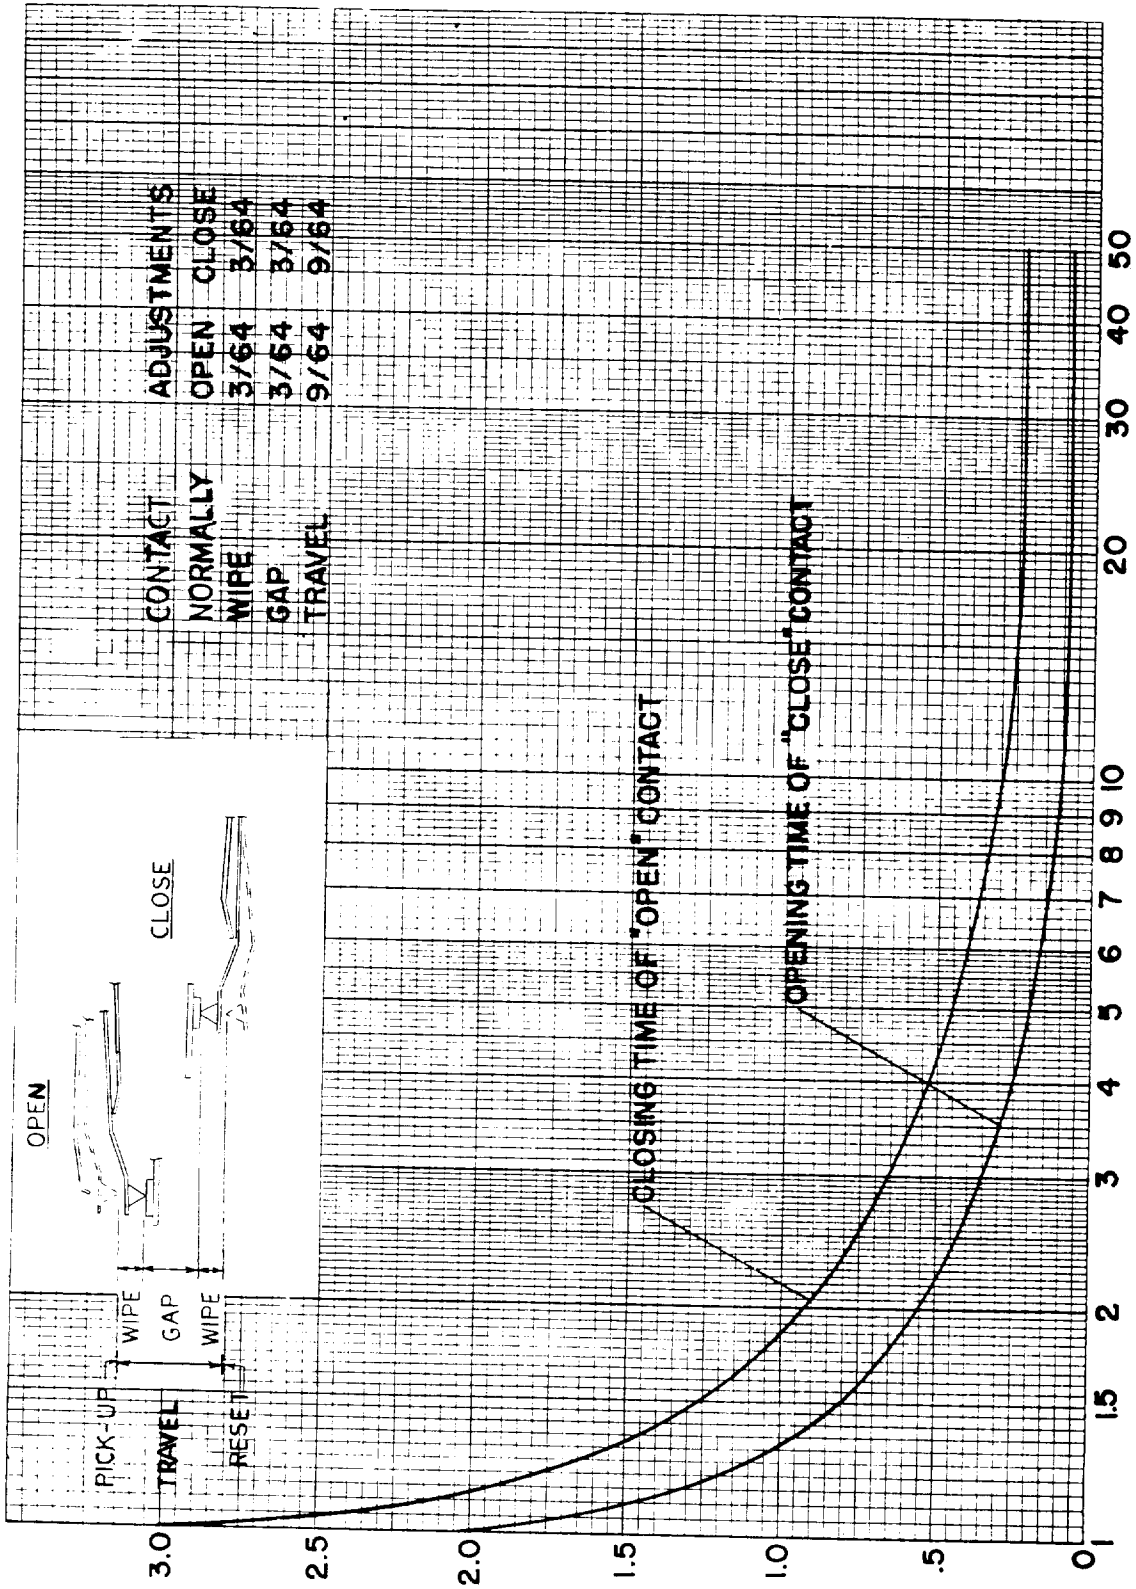

Figure 2 (418A711-2) Time Current Curves for Type PJC Relays
Time current curves for the units are shown in Figure 2. The operating current is plotted in multiples of pickup and the operating times are plotted in cycles on a 60 cycle basis. The upper curve shows the closing time of a normally open contact, and the lower curve shows the opening time of a normally closed contact.
2. The wipe on a normally open or normally closed contact should be approximately 3/64 inch. The normally open contact gap with the armature fully reset should be approximately 3/32 inch for either contact arrangement. Backstops should be present above all normally open contacts only. The gap between the backstop and stationary contact at the tip should be approximately 1/16 inch with the armature reset. See Figure 2.